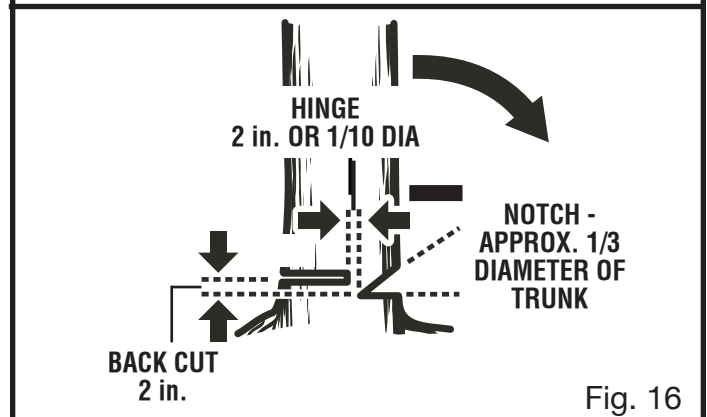

Fig. 16
- **Notched Undercut.** Cut a notch about 1/3 the diameter of the tree, perpendicular to the direction of fall. Make the cuts of the notch so they intersect at a right angle to the line of fall. This notch should be cleaned out to leave a straight line. To keep the weight of the wood off the saw, always make the lower cut of the notch before the upper cut. *See Figure 16.*
- **Felling Backcut.** The backcut is always made level and horizontal, and at a minimum of 2 in. above the horizontal cut of the notch. *See Figures 16 - 17.*
- Never cut through to the notch. Always leave a band of wood between the notch and backcut (approximately 2 in. or 1/10 the diameter of the tree). This is called “hinge” or “hingewood.” It controls the fall of the tree and prevents slipping or twisting or shoot-back of the tree off the stump. *See Figures 16 - 17.*